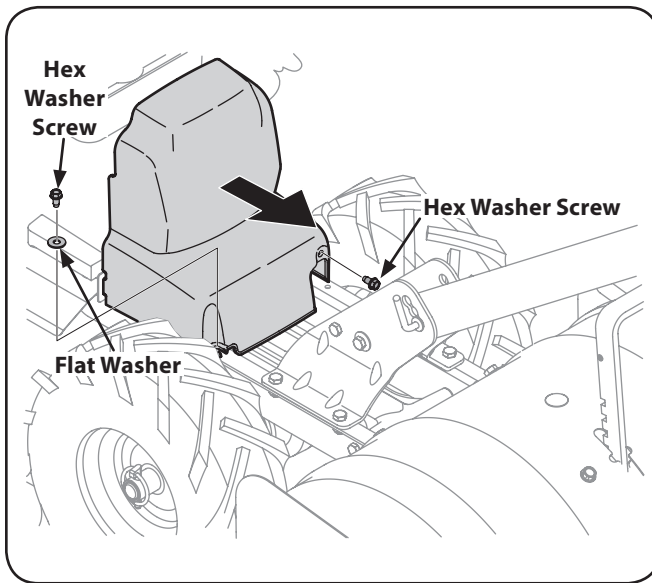

Figure 7-1
2. Remove the belt cover as seen in Figure 7-1, by first removing the two ¼-20 hex washer screws and one flat washer. Lift the belt cover up and away from the tiller and set in a safe location until reinstallation.